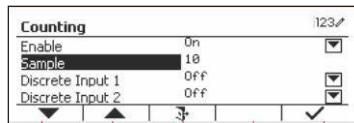

Figure 55
4. Select the list item and press the button corresponding to the ✓ icon to change the setting as desired. After completion of I/O's setup, press the softkey corresponding to the ➡ icon to return to the main application screen. (See Figure 55)